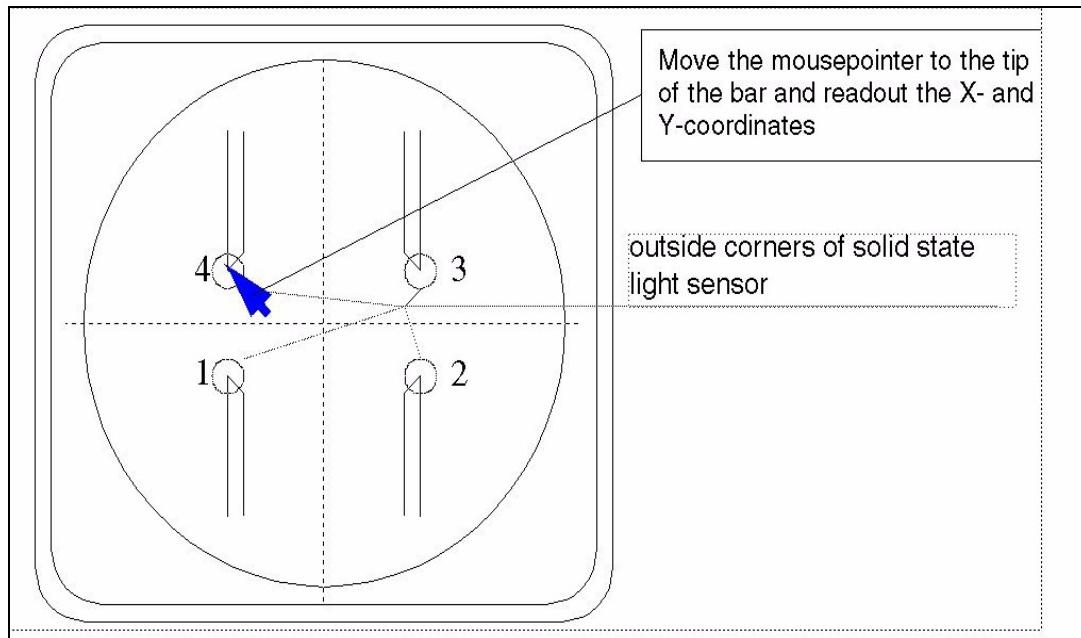

Fig. 2
- Move the mousepointer to the tip of the visible bars of the solid light sensor (Fig. 2).